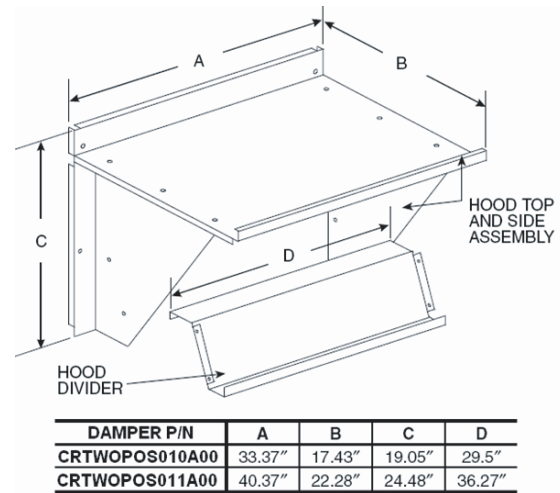

Fig. 2 - Damper Hood Panels
4. Assemble outside-air hood top, sides and divider as shown in Fig. 2. Do not install hood at this time.